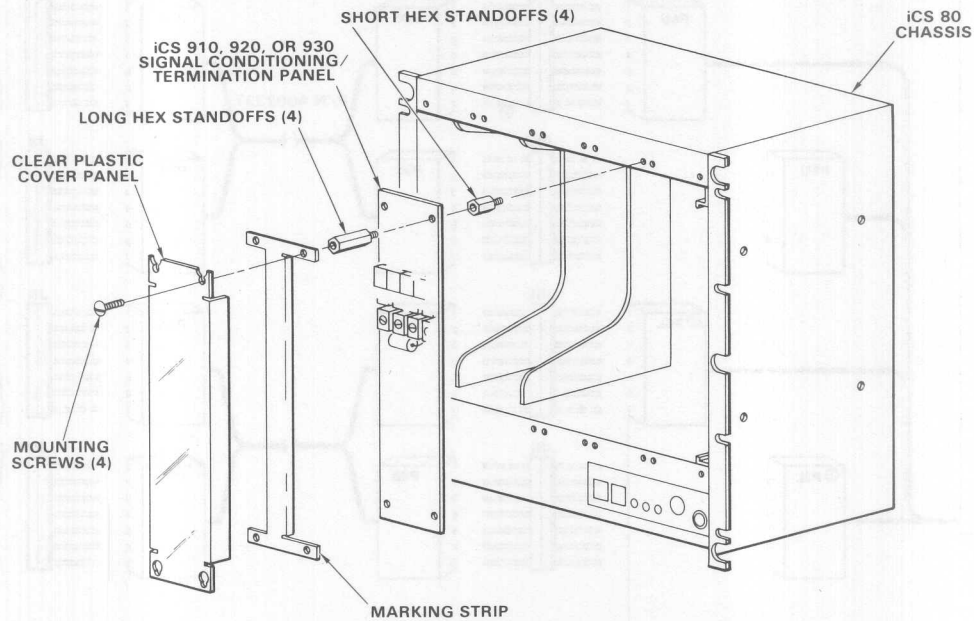

Figure 3-6. Signal Conditioning/Termination Panel Installation
- 2) Secure the four standoffs to the front of the iCS 80 Chassis; two on the top and two on the bottom. Reference figure 3-6.
If filler panels are mounted on the chassis, you must remove them before installing the signal conditioning/termination panels. Included in the installation kit is an optional marking strip, plastic cover, and long standoffs that may be installed as shown in figure 3-6.